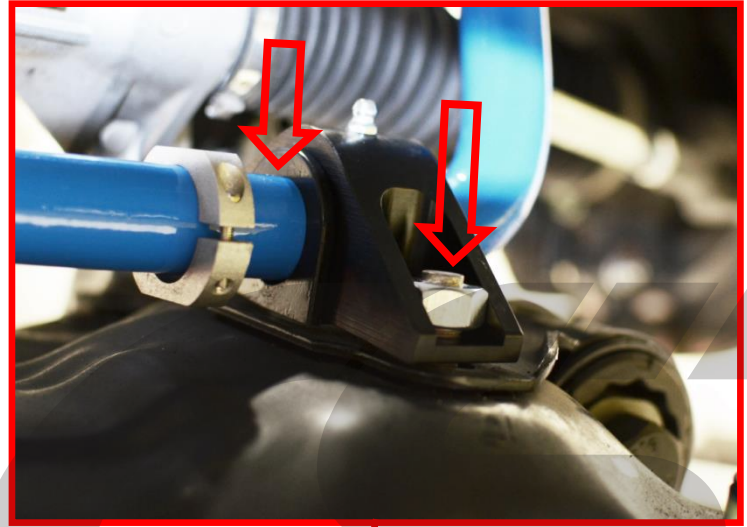

Figure 3d
- d) **Reinstall the bolts factory bolt for the swaybar brackets onto the new CorkSport front sway bar.** **Figure 3d** shows the bolts installed up through the provided nuts. Hand thread all bolts down first and then torque the bolts to 89-120 ft lbs using a 17mm socket.